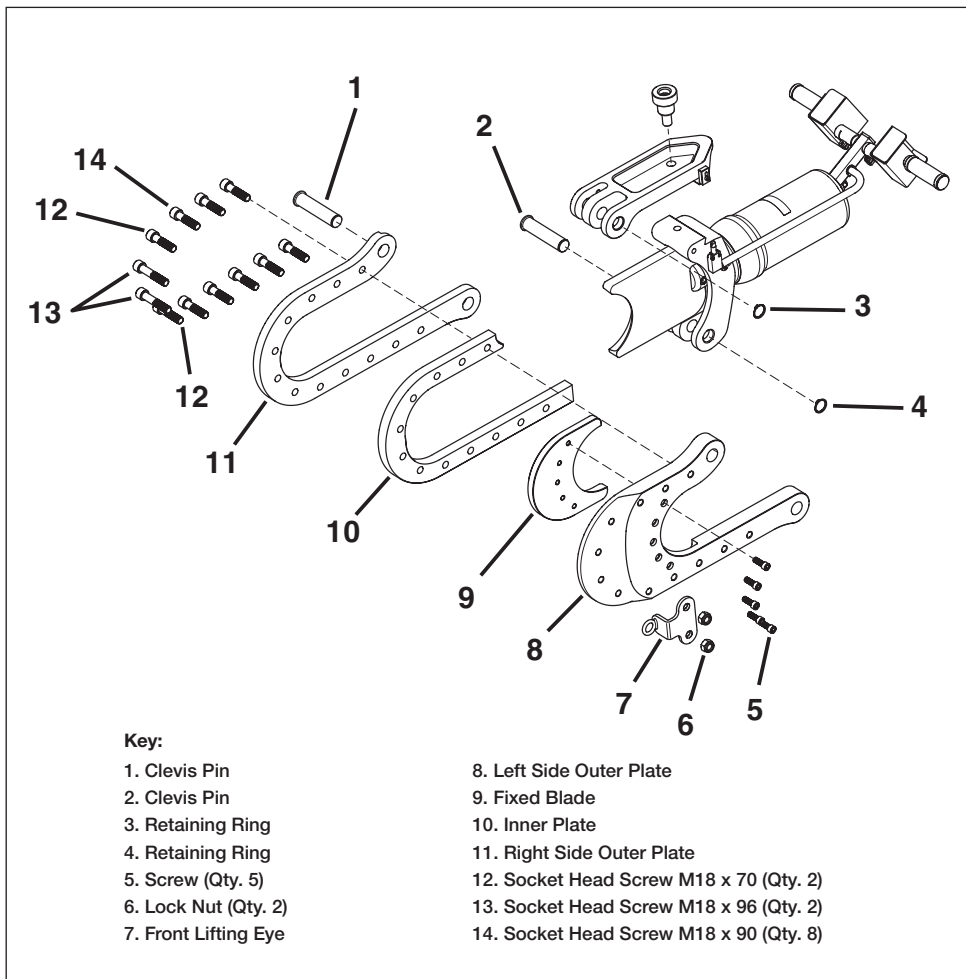

Figure 11, Fixed Blade Replacement
Replace the fixed blade as described in the following steps. Refer to Figure 11.
6. Remove retaining ring (Figure 11, item 4). Remove clevis pin (Figure 11, item 2) and cutting head (Figure 11, items 5-14).
7. Remove two socket head screws (Figure 11, item 13), lock nuts (Figure 11, item 6) and front lifting eye (Figure 11, item 7).
8. Remove two socket head screws (Figure 11, item 12) and eight socket head screws (Figure 11, item 14).
9. Separate left side outer plate (Figure 11, item 8), inner plate (Figure 11, item 10) and right side outer plate (Figure 11, item 11).
10. Remove five fixed blade screws (Figure 11, item 5) and remove fixed blade (Figure 11, item 9).
11. Install new fixed blade (Figure 11, item 9) onto left side outer plate (Figure 11, item 8) with five fixed blade screws (Figure 11, item 5) and torque to 64 ft-lb [87 Nm]. Also apply Loctite 243 or equivalent.
12. Assemble the left side outer plate (Figure 11, item 8), inner plate (Figure 11, item 10) and right side outer plate (Figure 11, item 11) using eight socket head screws (Figure 11, item 14) and two socket head screws (Figure 11, item 12). Torque to 213 ft-lb [289 Nm].
13. Install two socket head screws (Figure 11, item 13), front lifting eye (Figure 11, item 7) and lock nuts (Figure 11, item 6) and torque to 213 ft-lb [289 Nm].
14. Attach cutting head (Figure 11, items 5-14) to tool body using clevis pin (Figure 11, item 2) and retaining ring (Figure 11, item 4).